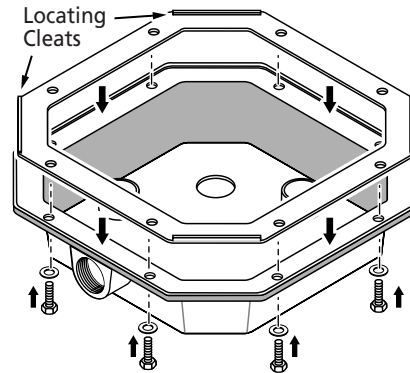

Figure 4
Step 4 (See Figure 4)
Step 5 (See Figure 4)